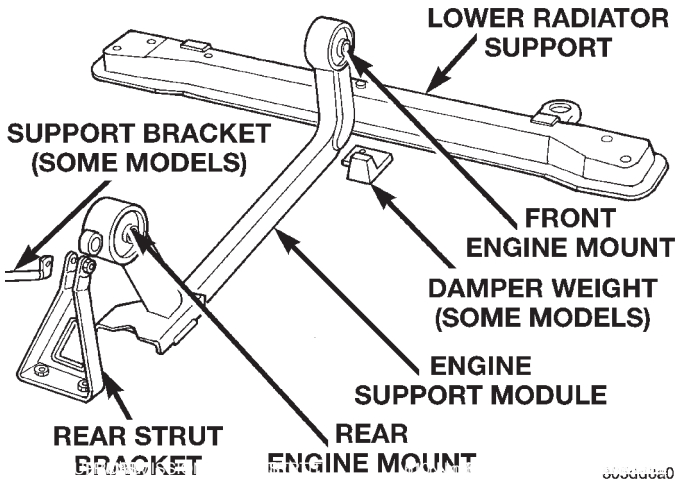

Fig. 25 Engine Support Module
- (1) Raise vehicle on hoist.
- (2) Remove thru bolt at rear mount and remove bolts attaching module to crossmember.
- (3) Remove upper attaching bolt from rear support strut bracket (Fig. 25).
- (4) Remove front attaching bolts from support module to lower radiator support.
- (5) Support cooling module.
- (6) Remove lower radiator support bolts, and remove support.
- (7) Remove thru bolt at front mount and remove support module.